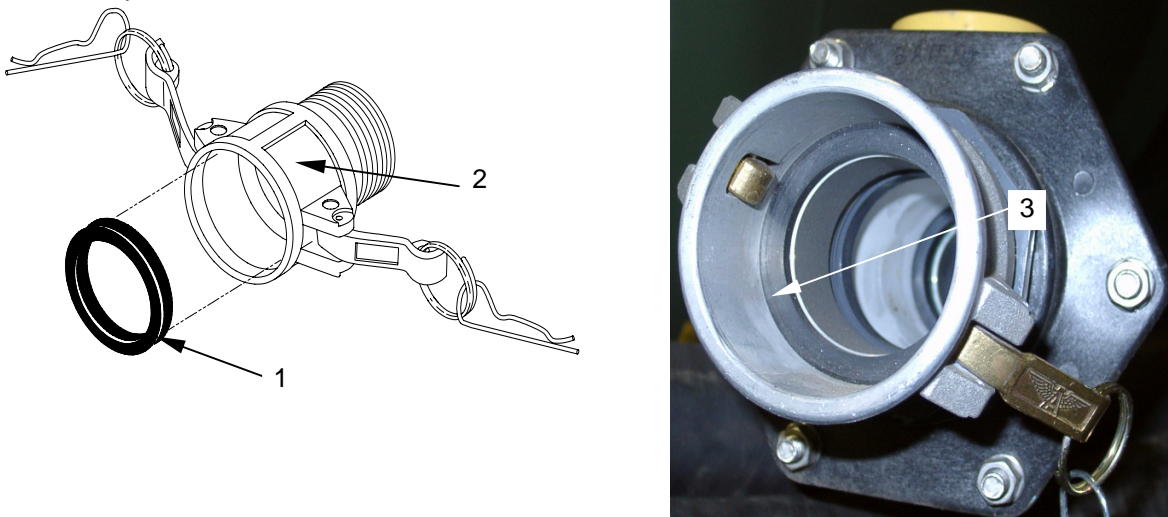

Figure 3. Gasket Installation
1. Using long round nose pliers remove any unserviceable gaskets (**figure 3, item 1**) from the female coupling (**figure 3, item 2**) on the hoses and chopper tube/wand (**figure 3, item 3**). Install new gaskets as required.